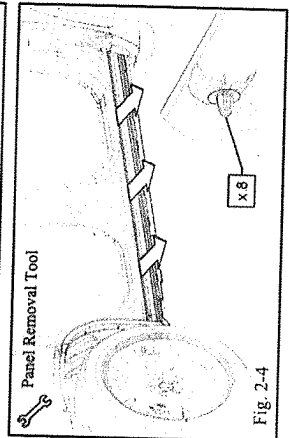

Fig. 2-4
- (e) Pry the rocker panel molding along the top to disengage the clips fastening it to the rocker (Fig. 2-4).